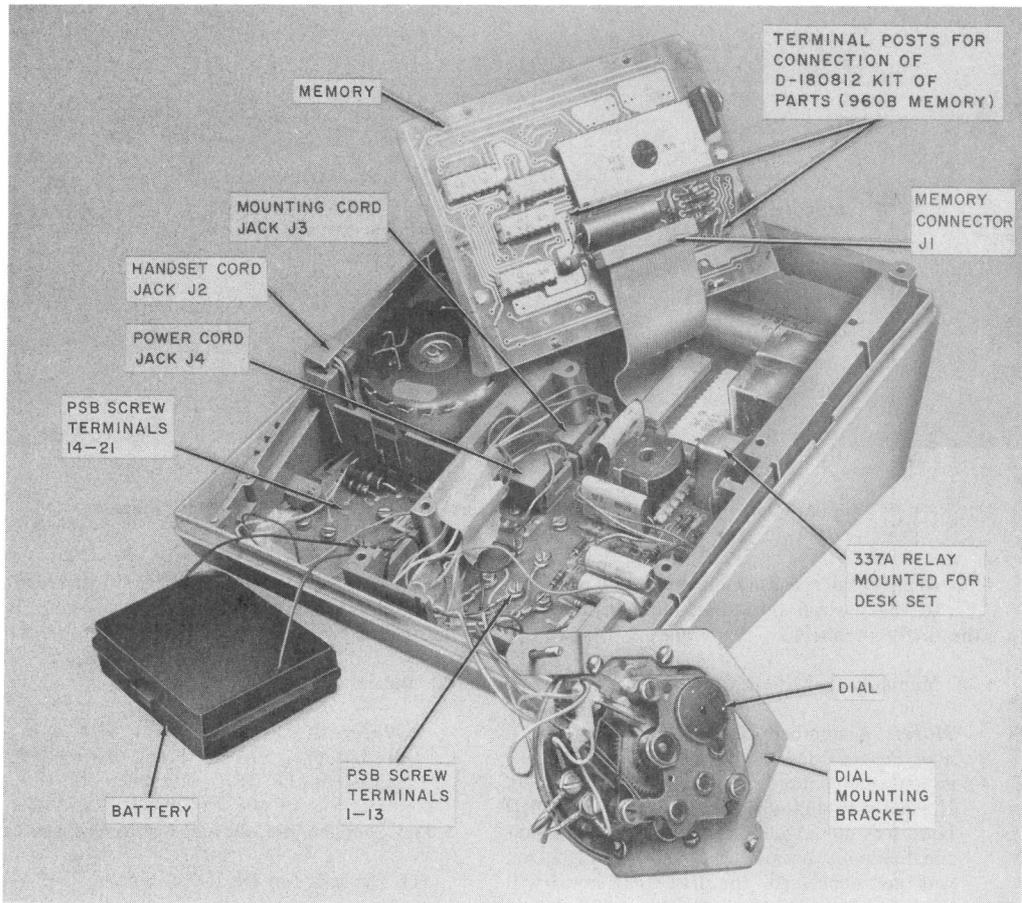

Fig. 6—960A01M Chassis and Lower Housing With Dial, Memory, and Battery Laid Aside, and Shield Removed
- (8) Rotate the right edge of the memory upward (Fig. 6) and connect the three leads to the terminal posts on the 960B memory per Table D.
- (5) Rotate the right edge of the Memory upward.
(6) Disengage the connector at the Memory (Fig. 6) by pulling it perpendicular to the circuit board.
(7) Replace the Memory by engaging the connector. The connector is keyed, one position is filled and should fit over the vacant position in the row of pins. The cable should not be twisted.
(8) Tighten the four captive screws.
(9) Replace the shield and faceplate.
(10) Test per paragraph 3.12.
(11) Place the old Memory in shipping container of the new Memory (carton 900314535), affix a defective label and return to the repair location.